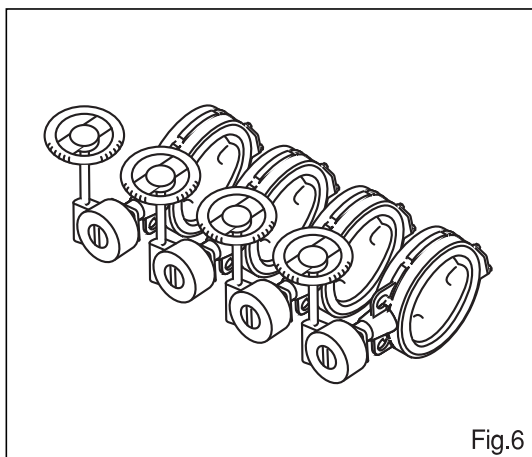

Fig.6
- **Stocking(un-packed)** : When valve to be stored without packing, any excessive force to its actuator part to be avoided. Cover-sheet to be put onto valve at dusty place. (Fig.6)